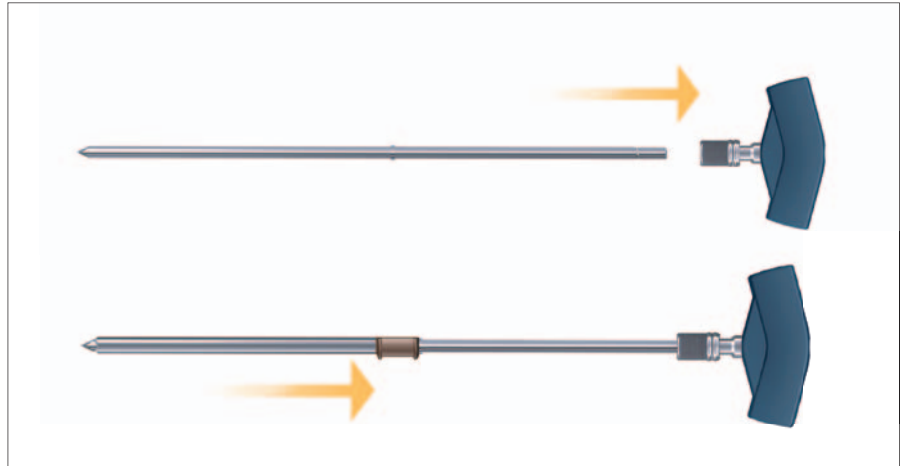

Fig. 21
Now attach the Recon Paddle Trocar to the T-Handle, AO Medium Coupling (Fig. 21).
If the dashed wire of the target appears between the two solid wires, then advance the Recon Tissue Protection Sleeve and Trocar as shown in Fig. 21.
Attach the Recon Paddle Trocar to the T-Handle, AO Medium Coupling as demonstrated in Fig. 21. Then slide the Tissue Protection Sleeve together with the Paddle Trocar assembly to the skin through the proximal target hole labeled (B).